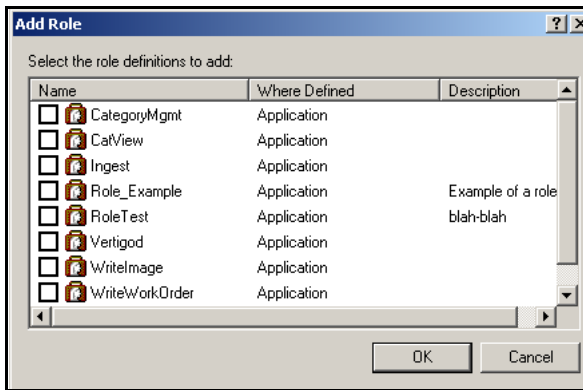

Figure 19-44. The Add Role dialog box
3. Right-click the **ROLE ASSIGNMENTS** folder and select the **ASSIGN ROLES** command. The **ADD ROLE** dialog box appears (figure 19-44).